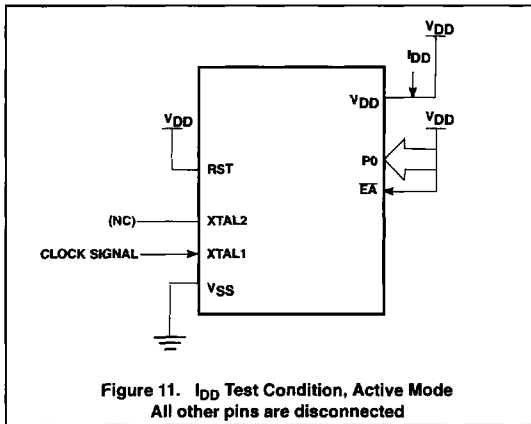

Figure 11. I_{DD} Test Condition, Active Mode
- See Figures 11 through 14 for I_{DD} test conditions.